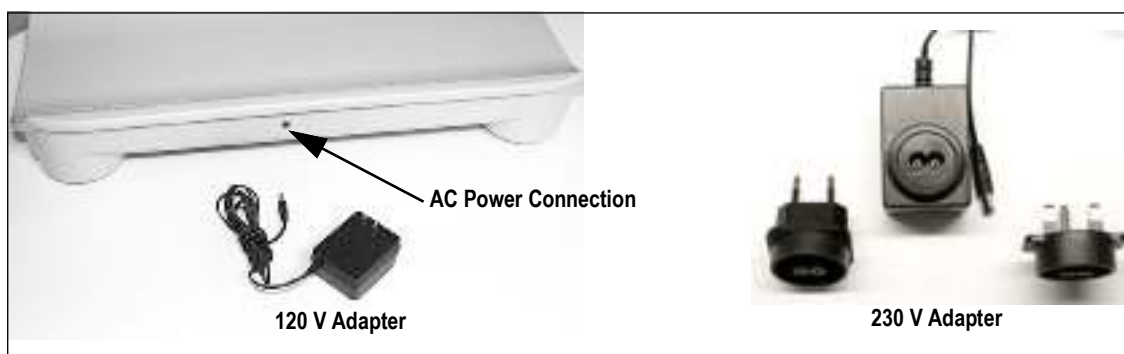

Figure 2-1. AC Power Connection Site
1. Plug AC adapter cable into the back of the scale (Figure 2-1 on page 7) and the AC adapter plug into a power source.